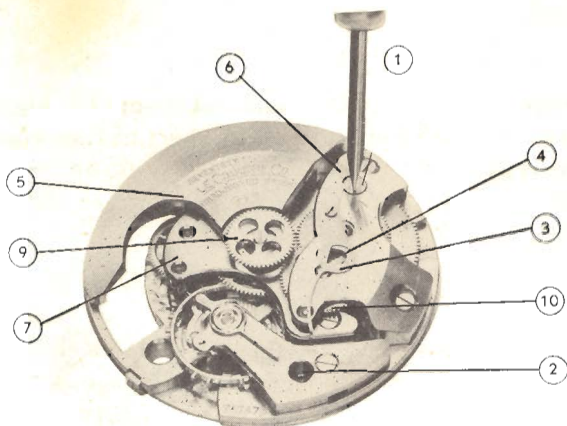
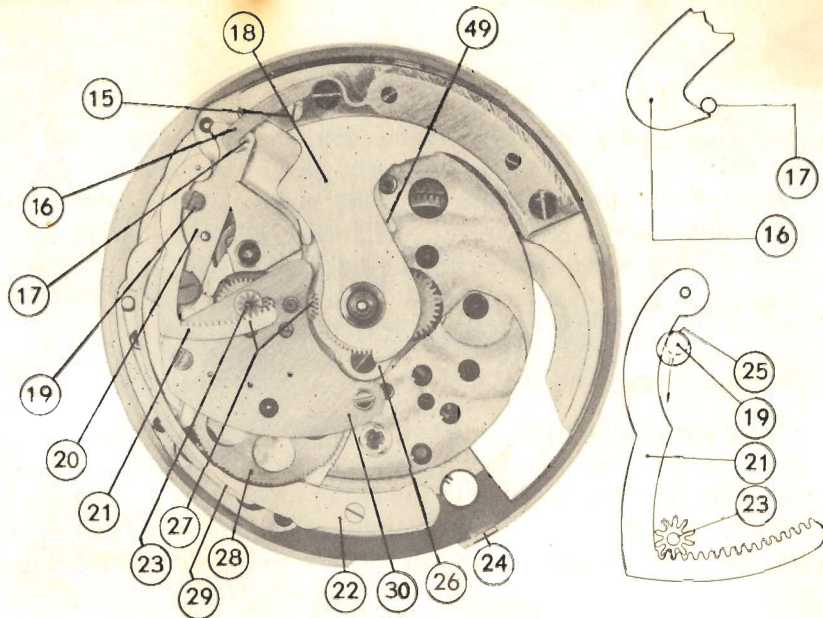
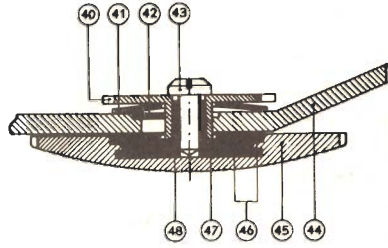
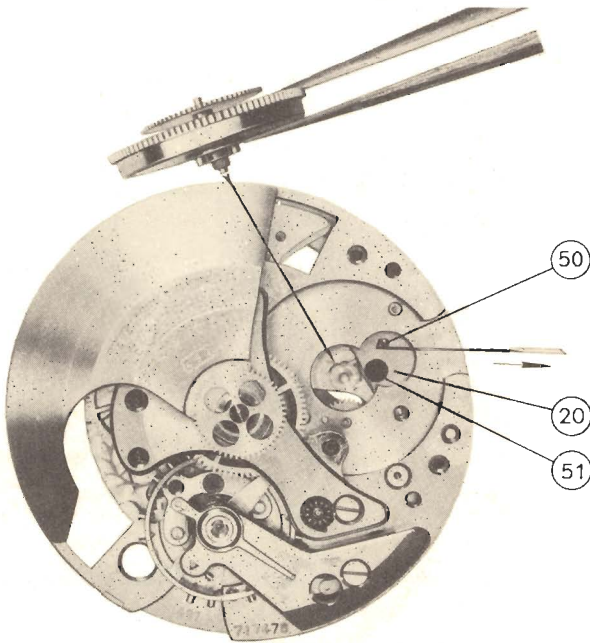

Fig. 1
Fig. 3
Fig. 5
Fig. 6
- a) Insert screw driver into the "Winding Pinion Screw" (Fig. 1) indicated by an arrow on the *Barrel Bridge*.
- b) Release the *Click visible through the aperture (2) in the heel of the Balance Cock*, and with the screw driver held firmly on the *Winding Pinion Screw (Fig. 1)*, allow mainspring to slowly unwind.
The **Barrel** is now ready for mounting on the movement. If *Lever 20* (Fig. 3 & Fig. 6) is in place, pull it outwards by *Pin 20* using a fine *Hook* (see Fig. 6); this is to allow passage of *Pivot 13* and *Disc 11* over *Cone 51*.
- a) Check if Pinion 23 (Fig. 3 & 3a) of *Reserve Indicator* is resting well against back of toothed portion of section 21 (as in Fig. 3a).
- b) Adjust *Eccentric* 19 (Fig. 3 & 3a) so that it does not rest against section 21, but has a slight clearance (1 to 2/100ths) at point 25 in the groove of the *Eccentric*.
- c) Then unwind the Mainspring 4 turns at *most* by means of Screw 1 (Fig. 1).
- d) Adjust hook-shaped part 16 (Fig. 3) by means of the *Eccentric* 15 so that it just engages with Pin 17 (Fig. 3b).
- a) Place *Hand-Setting Crown* 45 (Fig. 5) in pulled-out position.
- b) Check if *Balance Stop Spring* 3 (Fig. 1) is well-adjusted so that the hand of the *Hand-Setting Crown Screw* 43 (Fig. 5) falls into place at the entry 4 of *Lever* 3 (Fig. 1).
- c) Minute wheel, hour wheel; lubricate; fix oscillating weight bridge; bridge 26 (Fig. 3) and screw.
- d) Train wheel, bridge 7 (Fig. 1) and screw.
- g) Stop lever 20 (Fig. 3).
- o) Place oscillating weight in position (5 in Fig. 1 + 18 in Fig. 3) (special screws).